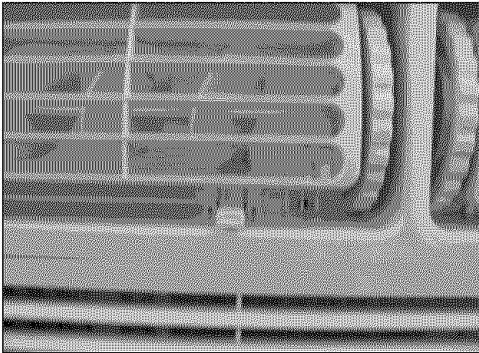

Figure 1 (VENT CLOSED)
1. Recirculate inside air – Vent Closed (see Fig. 1)